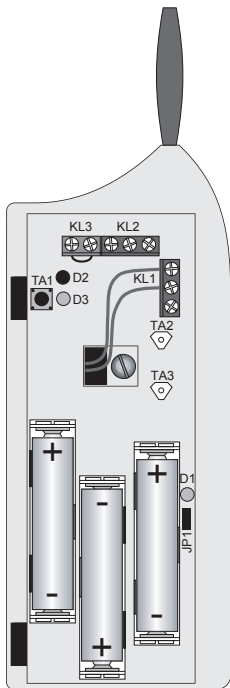

Figure 7
- Insert 3 AAA batteries, making sure that the polarity is correct. See figure 7.